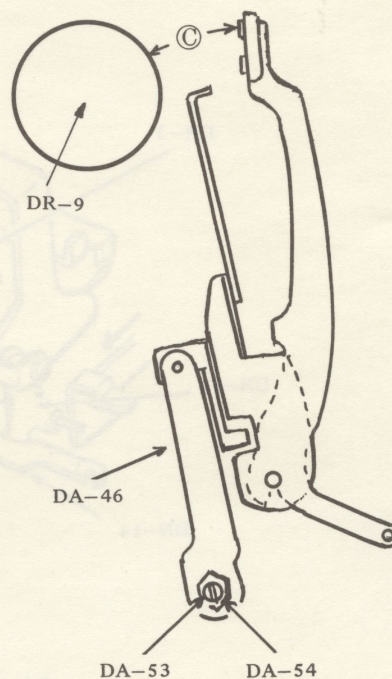

Fig. 15
- (3) Adjust with DN-15 (Eccentric Screw) to accomplish escapement of the Carriage when every type bar (left, right and center) reaches to the position (C) located at 0.5 to 5.0 mm from the surface of DR-9 (Platen) with operating the type bar by hand. (Fig. 15)
- (4) Adjust the position of DA-46 (Escapement Drive Link) by moving left and right with DA-53 (Center Screw) after loosening DA-54 (Nut) so that the differences of the timing of escapement among each Type Bar in a same machine is within 3.0 mm.
In this case, care should be taken against excessive lateral play in DA-46 to eliminate timing lag for escapement. And make sure smooth operation. (Fig. 15)